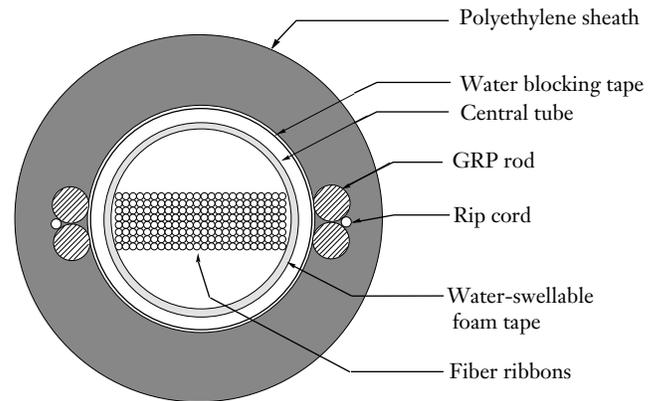

Figure 1
1.2 The cable illustrated in this procedure is a non-armored cable manufactured with a single central tube. Four glass-reinforced plastic (GRP) rods located beneath the sheath provide tensile strength for the cable (Figure 1).